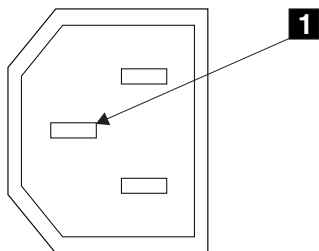

Figure 2. Ground pin
- Check for continuity between the frame of the SAN Volume Controller 2145-8F4 and the ground pin of each main power connector. The ground pin is shown as **1** in Figure 2.